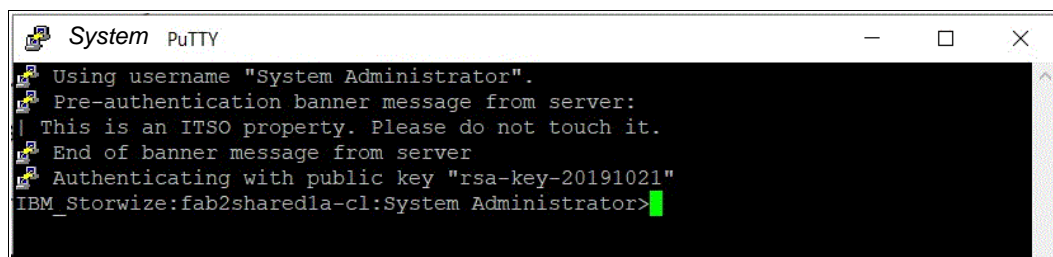

Figure B-15 PuTTY login
12. As shown in Figure B-15, PuTTY now connects to the system automatically by using the user ID that was specified earlier, without prompting for password.